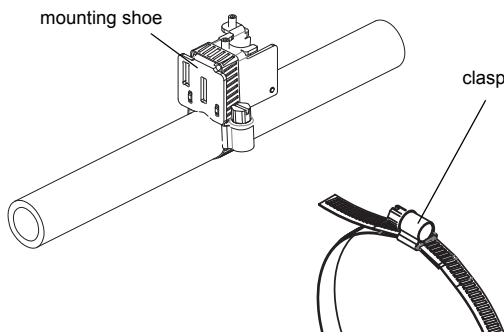

Fig. 7.37: Transducer in the mounting shoe, mounted with the tension strap and the clasp
- Push the tension strap through the groove on the top of the mounting shoe (see Fig. 7.37).